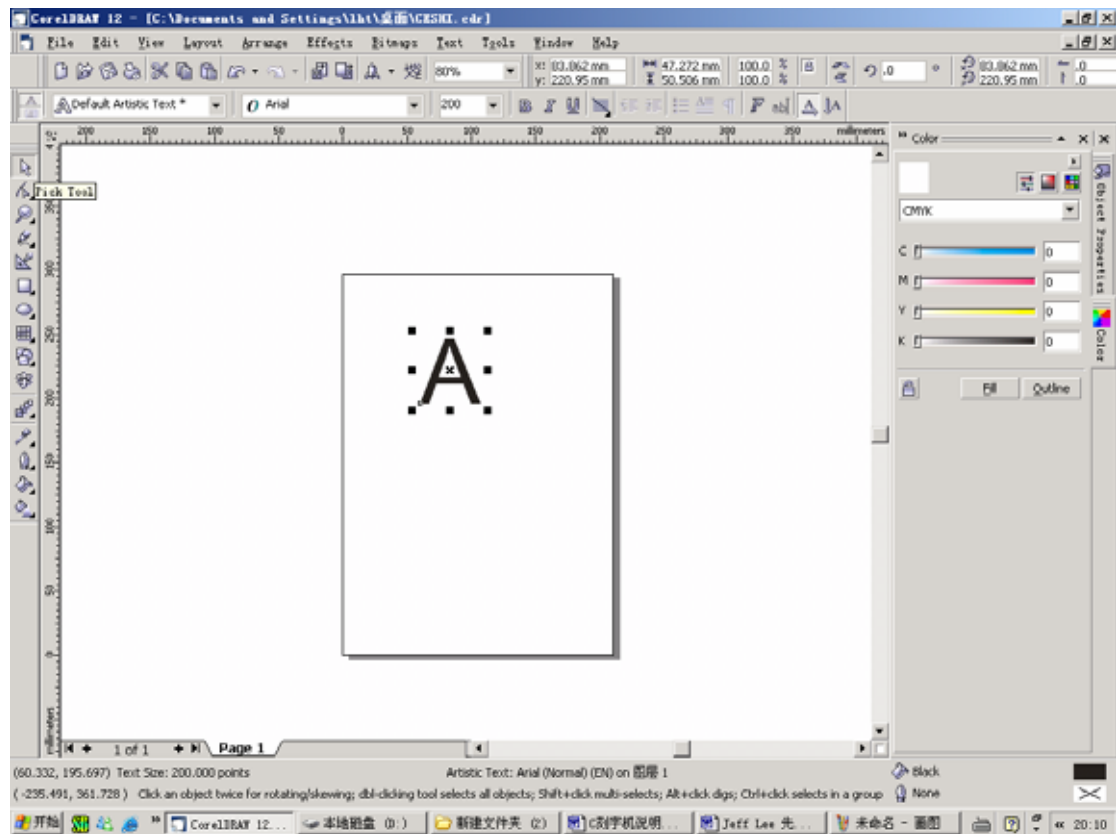
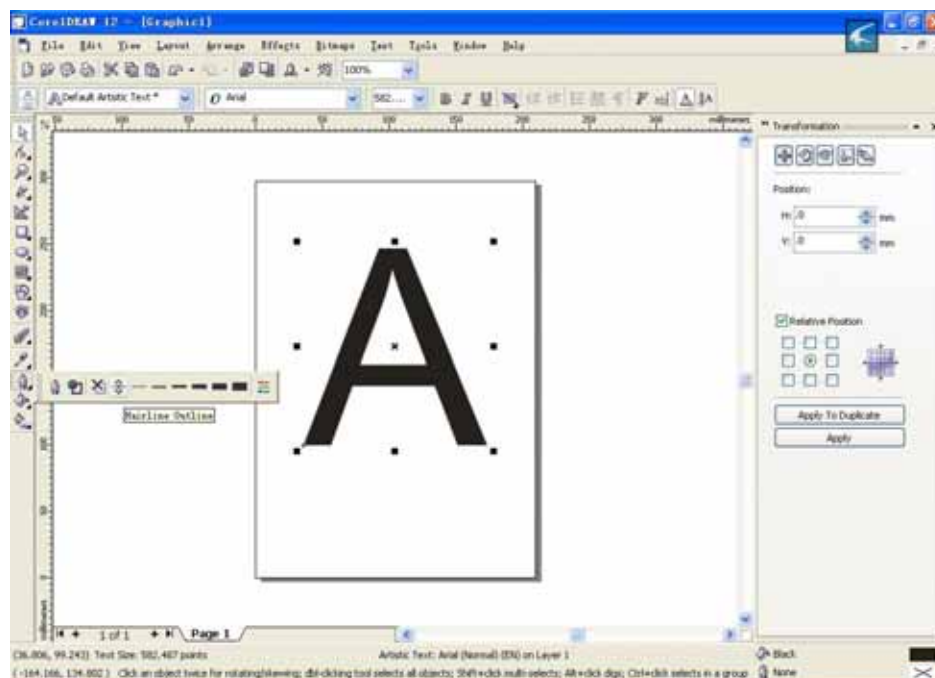
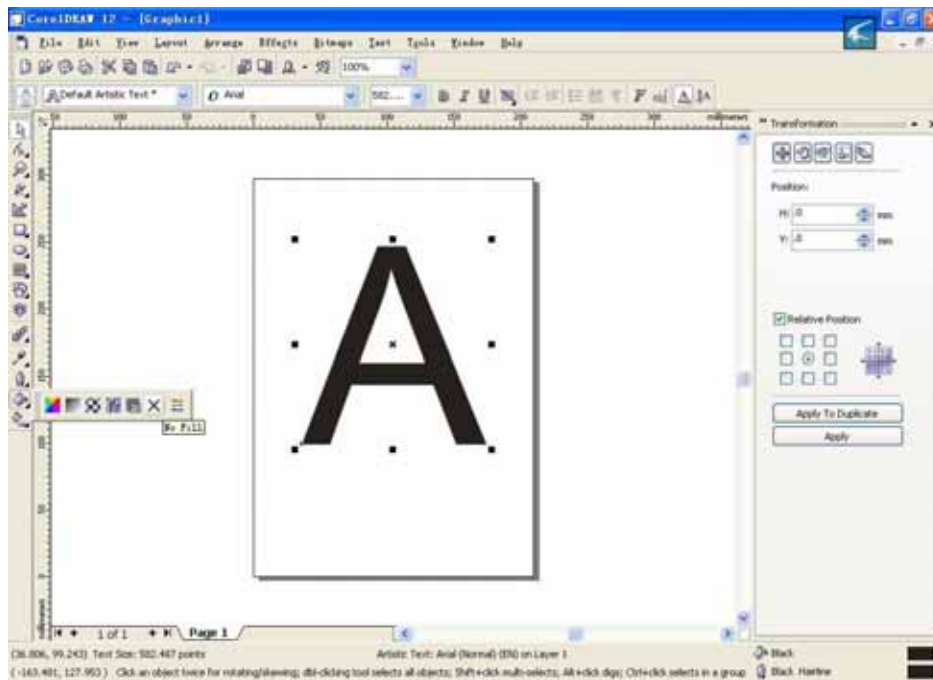
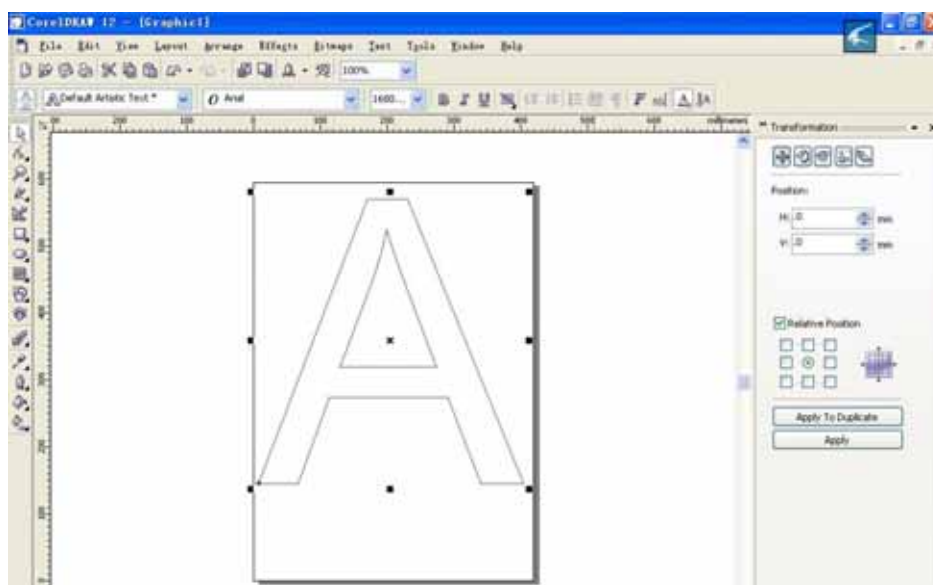

Figure 7
Figure 8
Figure 9
Figure 10
**Step 6:** Open CORALDRAW, write a letter A. **As figure 7, click PICK TOOLS on tool bar (note that it's the first button, but not the second).** Select Hairline Outline, shown as Figure 8. Finally select NO FILL, shown as Figure 9, the result shows in figure 10. **Please note that letter A shall be NO FILL as figure 10, but not fill as figure 9.** If you are unable to see if the letter is filled or not, zoom in the letter. If the letter is still filled after zoom in, it indicates the operation is incorrect. You need to resume Step 6. **If letter A is filled, it might cause the problem you mentioned – the file has been sent but cutter does not work at all.**